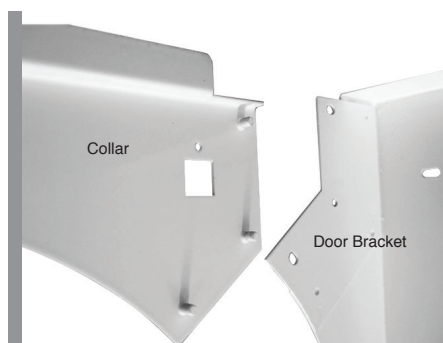

FIG 3a - Door Bracket and Collar Detached
## Step 2 - Remove the door bracket (fig 3a & 3b)
- Remove door bracket - set nuts aside in a safe place (see Fig 3a).